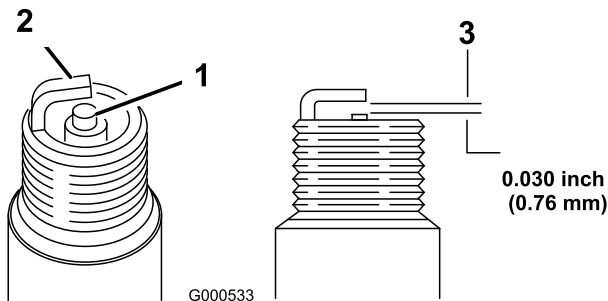

Figure 28
5. Set the gap on the plug to 0.76 mm (0.030 inch); refer to Figure 28.